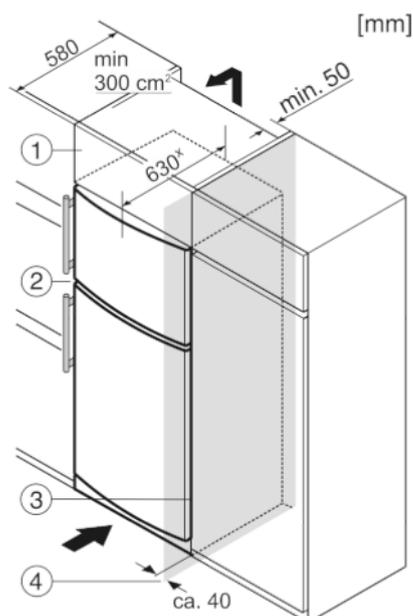

Fig. 7
The appliance can be built into kitchen units. A top cupboard Fig. 7 (2) can be added above the appliance in order to bring the appliance Fig. 7 (1) up to the height of the fitted kitchen units.
When installing with kitchen units (max. depth 580 mm), the appliance can be positioned directly next to the kitchen cabinet Fig. 7 (3). The appliance will project by 34 mm^x at the sides and 50 mm^x in the centre of the appliance in relation to the kitchen cabinet front.
If the appliance is installed with the hinges next to a wall Fig. 7 (4), the distance between appliance and wall has to be at least 40 mm. This corresponds to the projection of the handle when the door is open.